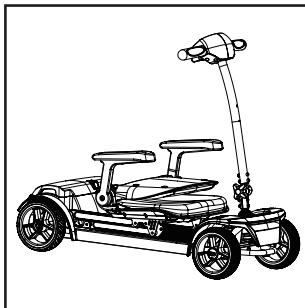

Figure 10
2. Fold the Seat: Smoothly fold the seat forward and place it securely on the footrest. Ensure it sits stably (see figure 10).